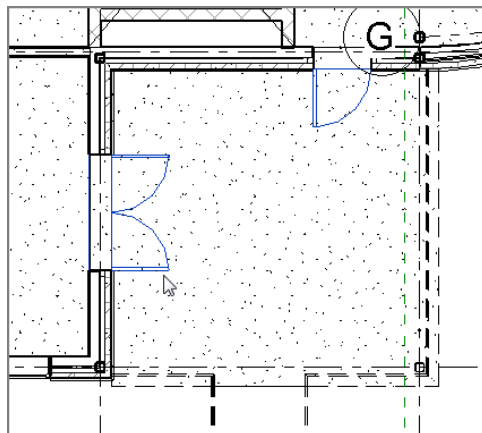

FIGURE 21.6: You no longer need these doors.
17. Go back to the Level 1 plan, and select the two doors shown in Figure 21.6.